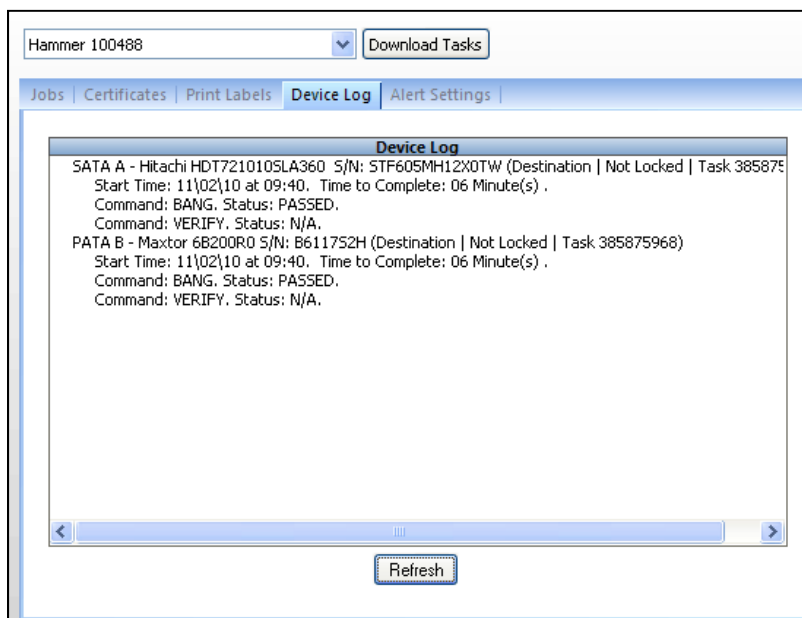

Figure 46 - Log Tab
In the example shown in Figure 46, two (2) drives have been subjected to eradication using NIST 800-00 'Clear'. The information shown in the Device Log screen includes information about each drive as well as the start time and elapsed time: